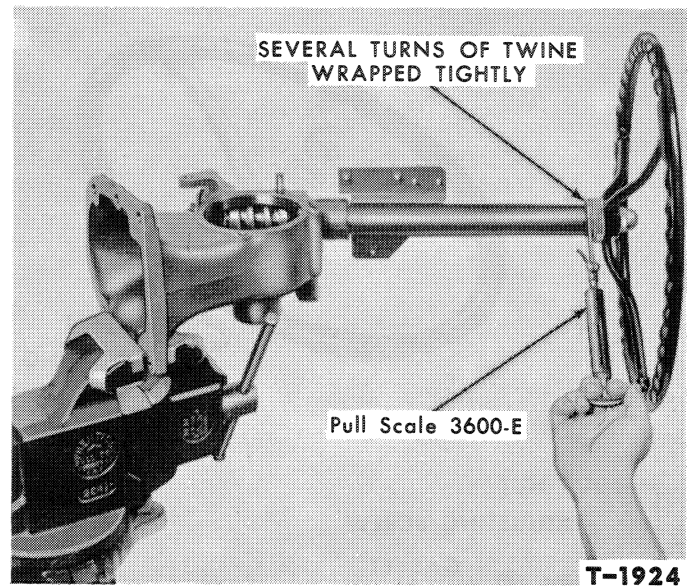
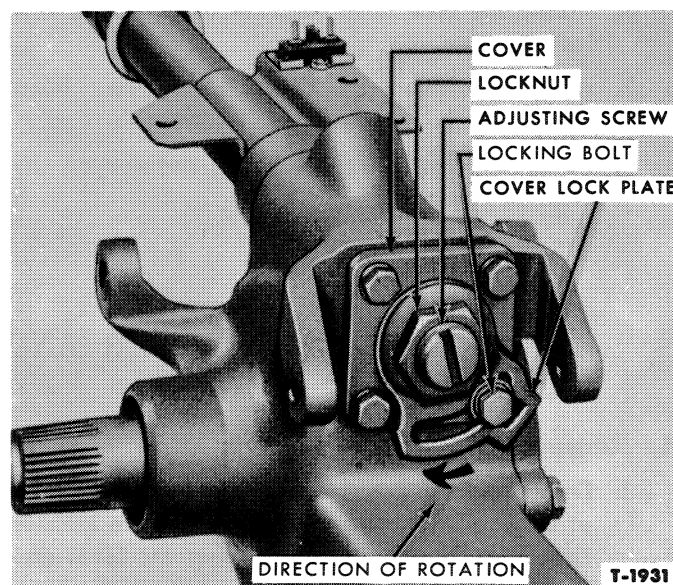

Figure 19—Checking the Worm Bearing Preload
Figure 23—End Cover Lock Plate and Locking Bolt
- a. Adjusting screw lock nut, Figure 23.
6. Install the steering column bearing, seat, spring and felt. Position the steering wheel and emblem on the shaft and secure with the steering wheel nut. Use a piece of twine and Pull Scale 3600-E to check the preload on the worm bearings by rotating the steering wheel, as shown in Figure 19. Preload should be $4\frac{1}{2}$ to 9 inch lbs. torque with the steering shaft positioned three turns to right or left of straight-ahead position. This is equivalent to 5 to 10 lbs. pull when checked as shown in Figure 19. Adjust the preload by turning the adjusting screw, Figure 23, in or out as necessary. Tighten the lock nut and recheck the preload to be sure it has not changed.
- a. Loosen the bolt so that the lash adjusting lock plate is free to rotate, Figure 23.